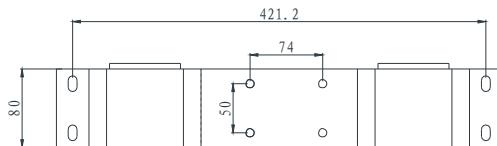

Figure 3.1
- 1) The size of the wall panel mounted on the wall, in mm.(See Figure 3.1)